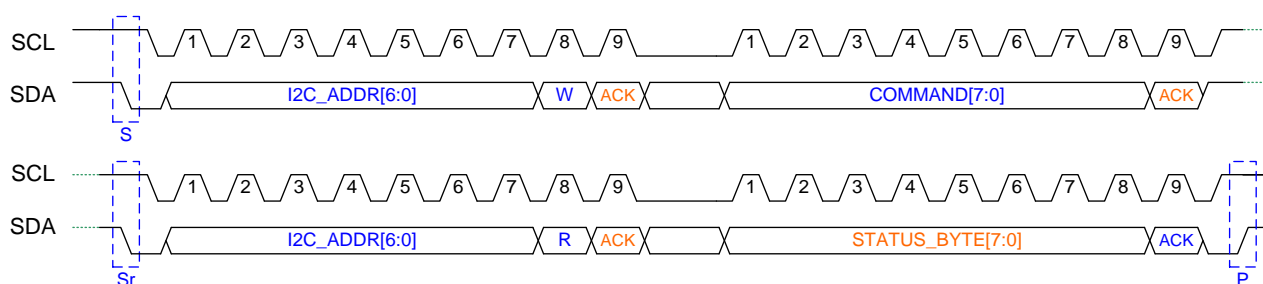

Figure 6: Default I2C communication example with status byte readback
- Sending a Command Byte by the Master, as depicted in Figure 6. The Slave will always acknowledge this, even if it is an unrecognized command. A command such as WR and RR consist of more than 1 byte, which can then be transmitted sequentially over the I2C bus. Referring to Figure 6 the COMMAND byte should then be a sequence of COMMAND byte1, byte2, etc...
- Generating a Stop condition (P) by the master